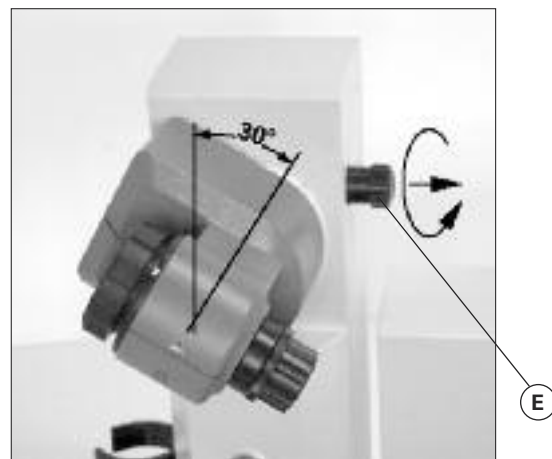

Fig. 7
- ☞ Remove the clamping device for the angle setting of the rotation drive on the right side of the lift by rotating the knurled screw counter clockwise (gently press and rotate the knurled screw (E) at the same time to move it further in or out).
- ☞ Set the drive at an angle of approx. 30° (fig. 7).